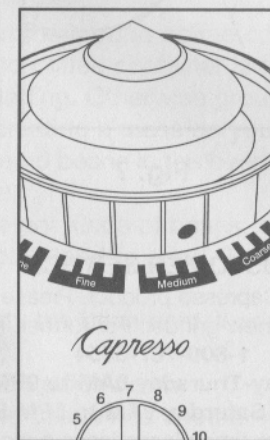

Fig. 3
1. Grinder only grinds with the bean container in place and the dot on the bean container pointing to one of the fineness settings (Fig. 3).